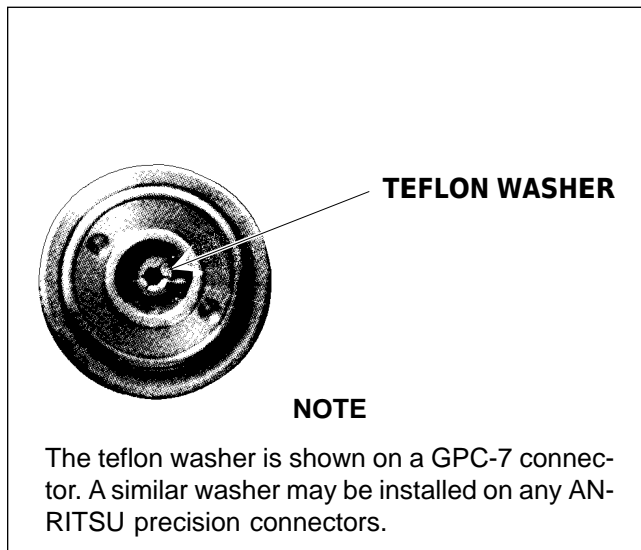

Figure 3. Tuning Washer on GPC-7 Connector
c. Do Not Disturb Teflon Tuning Washers On Connector Center Pins. The center conductor on some adapter connectors contains a small teflon tuning washer located near the point of mating (interface) (Figure 3). This washer provides for precise impedance matches at the interface. The washer's location is critical to the adapter's performance. *Do not disturb it.*